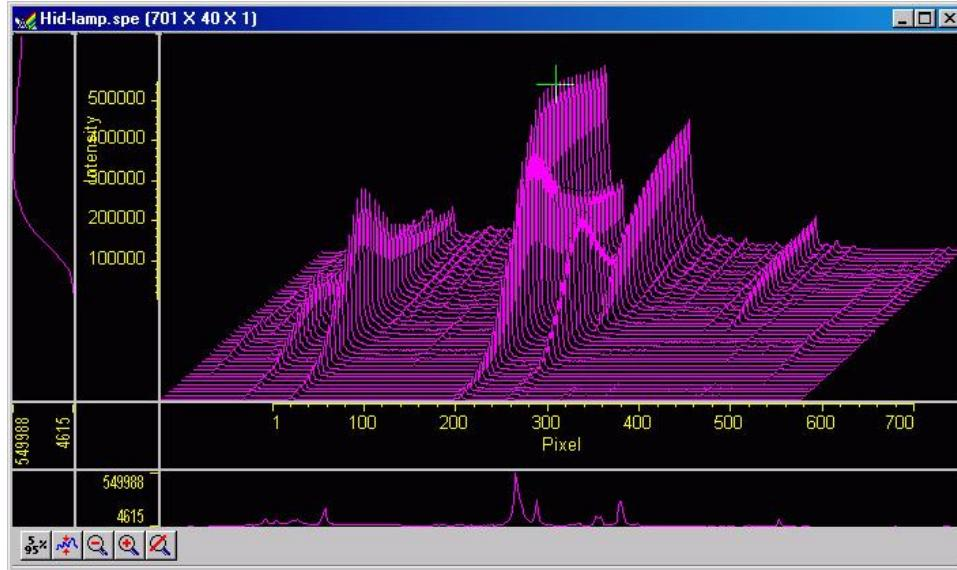

Figure 78. Hid-lamp.spe 3-D Graph
6. Click on **OK**. The Display Layout dialog will close and the data display, exclusive of the intensity profiles, should appear as shown in Figure 78. Each strip is displayed as a plot of intensity vs. pixel number. The first strip is at the front and the last strip is at the back. Initially the cursor will be at the lower left. Use the up arrow key to move to a higher numbered strip and the right arrow key to move to a higher numbered pixel on the strip. Then click the Intensity Autoscale key to scale the
8. Note the cross sectional displays in Figure 78. The vertical cross-section profiles the intensity at the same point on each successive strip. The horizontal cross-section profiles the intensity at each point on the same strip. If the large cursor is selected, cursor projections will intersect the cross section to show indicate the cursor position. These projections may not be visually aligned with the cursor position on the main plot. This effect will be particularly noticeable with a long Z axis. Because of perspective effects, the higher numbered strips will be further away and visually smaller. The axes automatically adjust so that they read true for the strip on which the cursor is located. However, because the cross-section profiles expand to use all of the available space, they will not be in alignment visually with the cursor. The profile shapes will be correct, and the point on the profiles intersected by the large cross-hair extensions will accurately indicate the cursor position. Also, the information box will accurately report the pixel number and intensity at the cursor position.